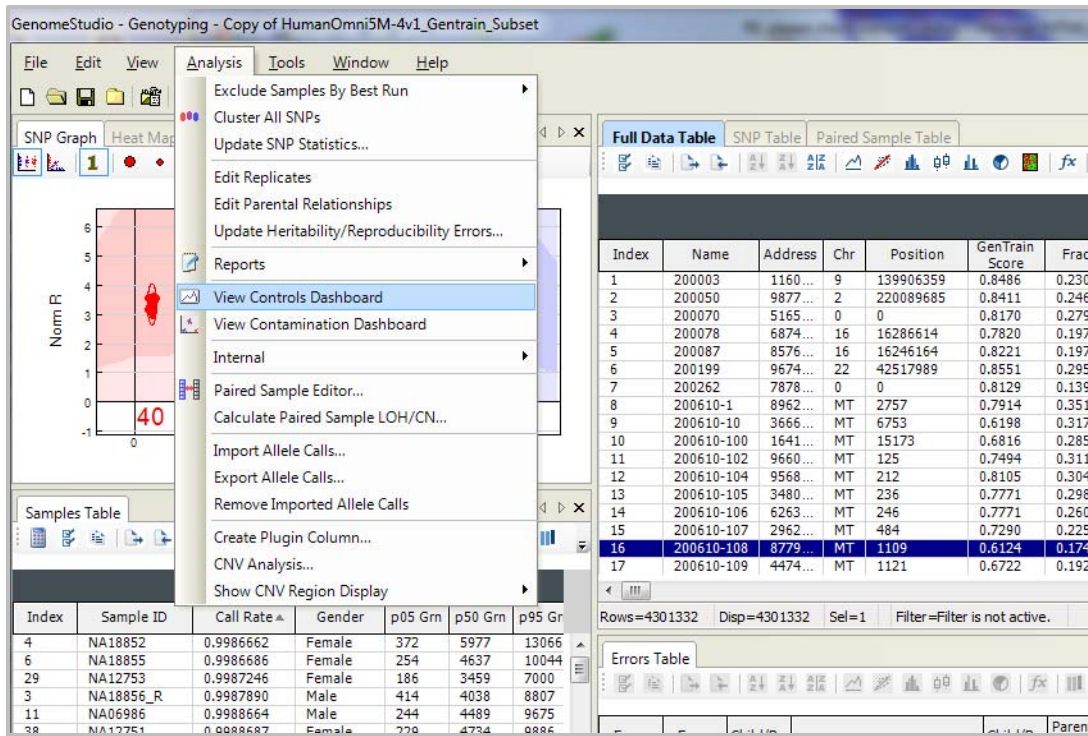

Figure 3: Opening the Controls Dashboard in GenomeStudio
- Select Analysis > View Controls Dashboard. (See Figure 3.)